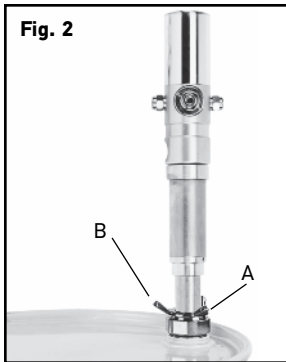

Fig. 2
- Attach the 2" bung adapter, P/N 22157 (item A, fig 2), to the 2" opening at the top of the drum.
- Tighten the wing nut, item B, fig. 2, on bung adapter to secure the pump at the desired height.